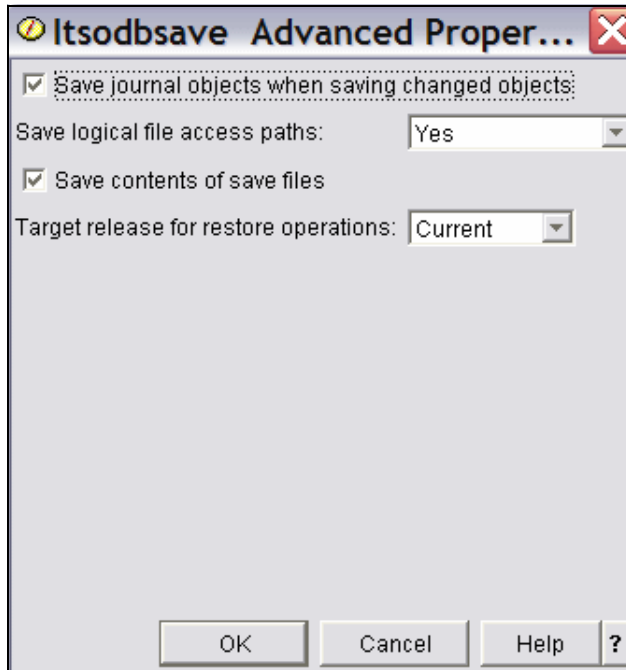

Figure 7-40 What to save - Advanced
3. Select **Save journal objects when saving changed objects**, in the window shown in Figure 7-40 on page 373.